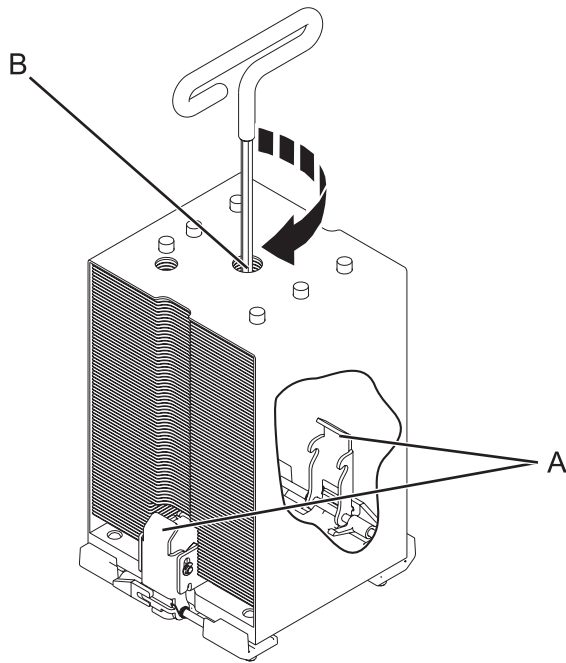

Figure 11. Tightening the center load screw on the heat sink
- c. Tighten the center load screw **(B)** clockwise by using the supplied hex key until a firm stop is reached. If the heat sink moves noticeably, the load arms **(A)** are not engaged. Unscrew the center load screw and try this step again. See Figure 11 on page 13.